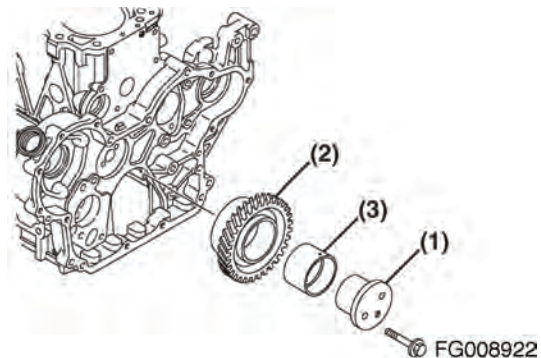

Figure 169
1. Remove the bolts from the idler gear shaft (1, Figure 169). Remove the idler gear shaft, idler gear (2, Figure 169) and bushing (3, Figure 169).